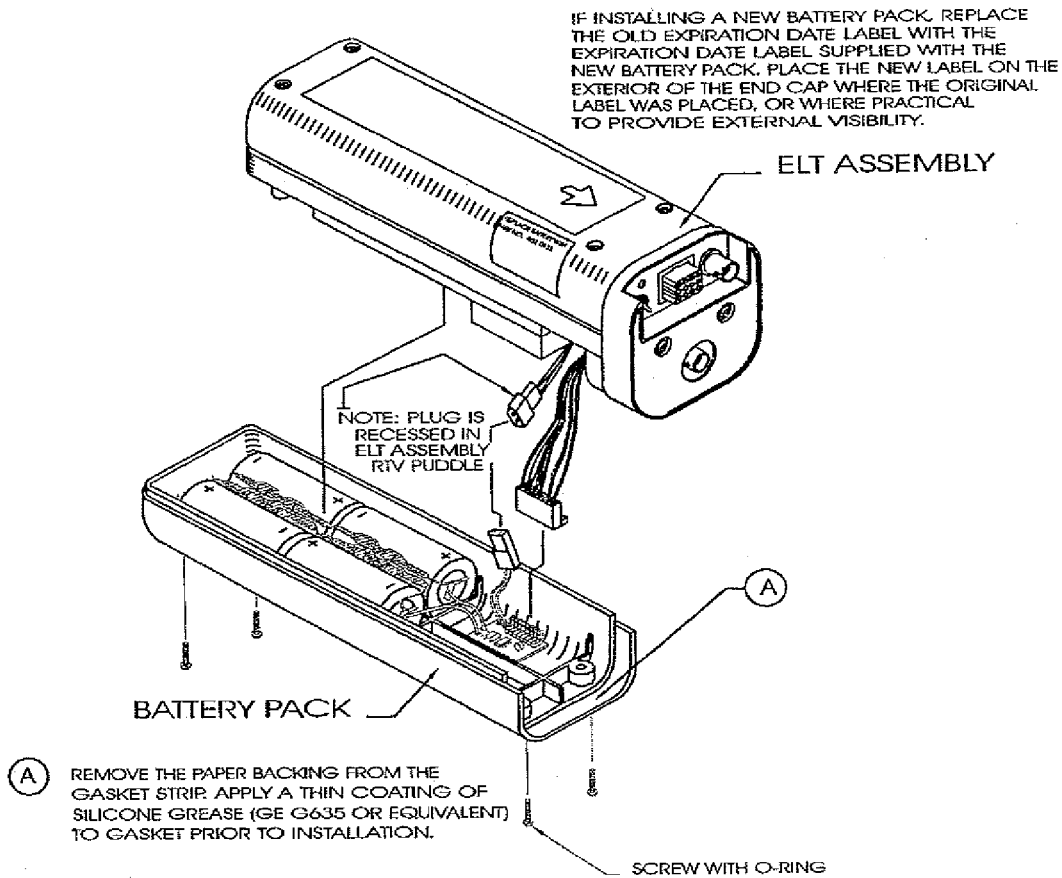

Fig. 206 - ELT (Artex) Battery Pack - Inspection
- (2) Clean the replacement parts and their interfaces.
- (3) Connect the co-axial cable (1) to the antenna (4).
- (4) Locate antenna and attach with six screws (3).
- (5) Apply a fillet of sealant around antenna base.
- (6) Remove excessive sealant.
- (7) Install the ceiling furnishing panel (2).
- (8) Remove safety clips and tags and set circuit breaker ELT.
- (9) Set the battery switch to ON position.
- (10) Do an ELT (AF) functional test as described in this section.
16. ELT (AF) (ARTEX) - Functional Test (Ref. to Fig. 206)
17. ELT (AF) (ARTEX) - Operational Test(Ref. to Fig. 206)